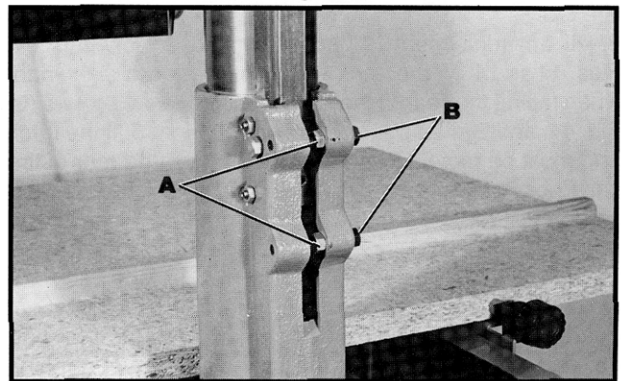

Fig. 41
Elevating column tension is preset at the factory; however, it can be adjusted. If increased tension on the elevating column is desired, loosen the two locknuts (A) Fig. 41, and tighten two screws (B) until column operates smoothly. Tighten locknuts (A). If the elevating column binds in the column bracket, the bracket must be spread slightly. Loosen the two locknuts (A) Fig. 41, and slightly back off two screws (B). Hold the hex head of each screw (B) with a wrench and turn its locknut (A) towards the hex thus spreading the column bracket. **NOTE:** After adjusting column tension refer also to "ADJUSTING SAW BLADE TRAVEL SQUARE WITH FENCE."